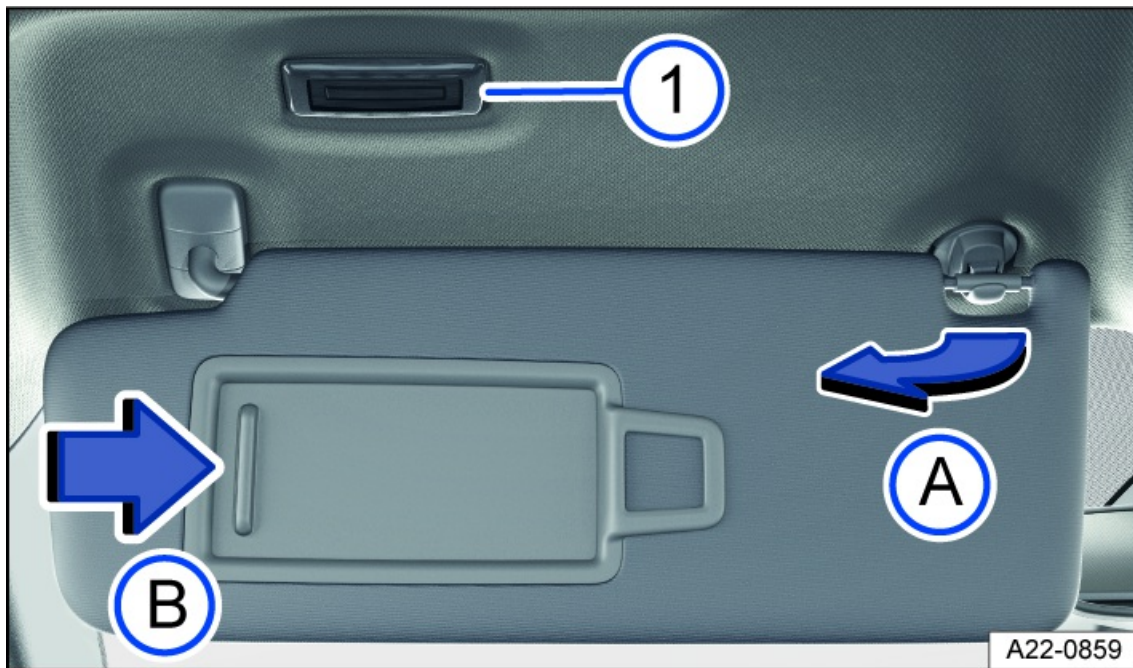

Fig. 87 In the front of the headliner: sun visor.
- Remove from the holder and tilt toward the door *fig. 87*.
When the sun visor is folded down, there is a vanity mirror located behind a cover. The lights fig. 87 turn on when the cover fig. 87 slides open.